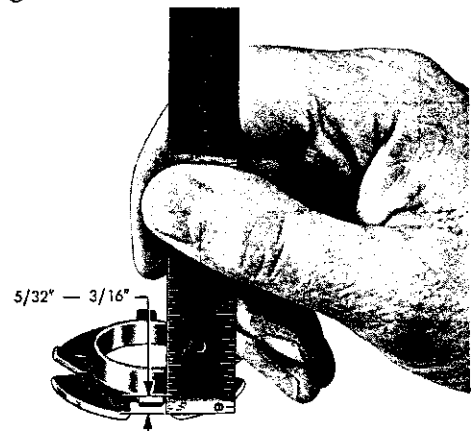

Fig. 38—Measuring the Height of the Solenoid Coil Retainer Tangs
(8) Bend the four (4) tangs of the coil retainer "up" to a measurement of $\frac{5}{32}$ " to $\frac{3}{16}$ " above the surface of the retainer (Fig. 38) to insure higher compression and a more positive ground.